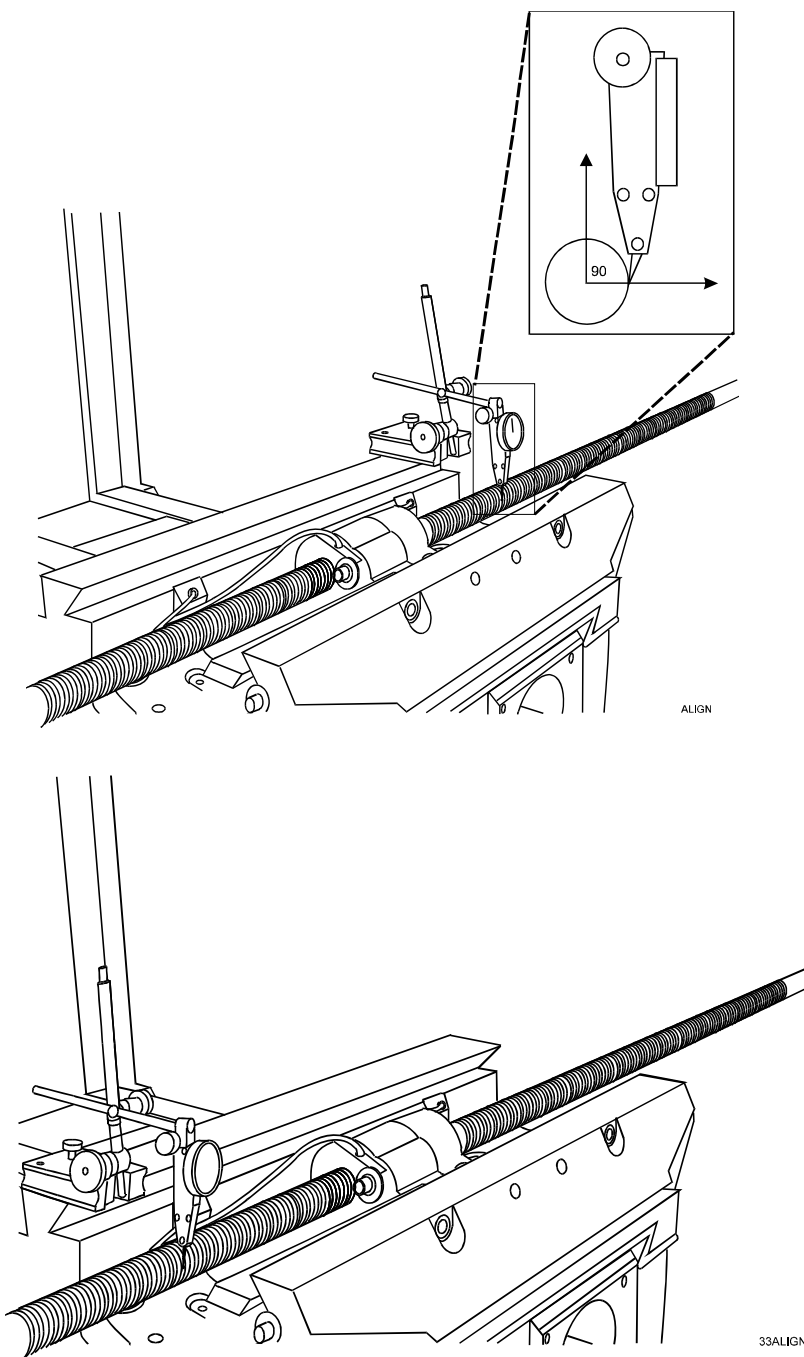

Figure 3-4, Ballscrew Alignment
1. Use a surface gauge and indicator to measure the distance from the back edge of the saddle way to the screw (along the X-axis). Take measurements at both ends of the saddle. The difference between the two measurements must be less than 0.002". Refer to **Figure 3-4, Ballscrew Alignment**.